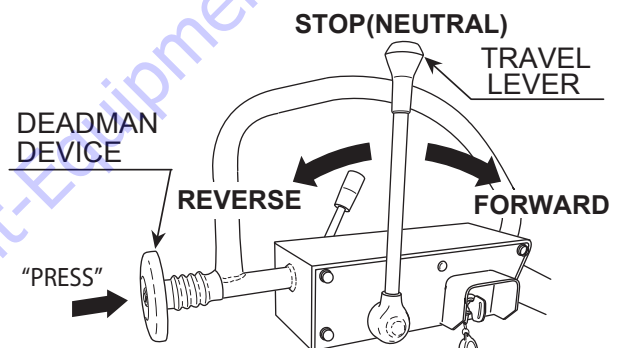

Figure 9. Deadman Device Check
4. With travel lever placed in reverse, push the deadman device and verify that the travel lever returns to neutral position. The travel lever stays in neutral position once the deadman device is released (Figure 9).